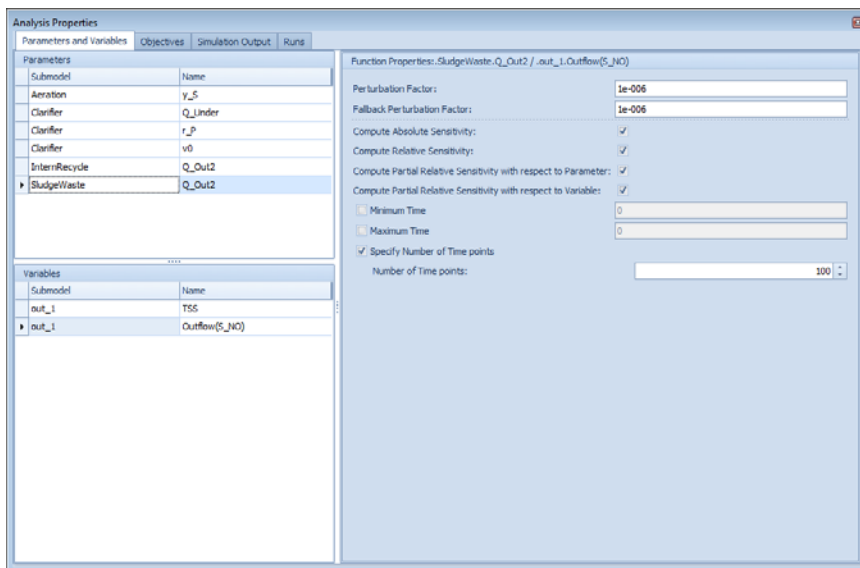

Figure 8.4 Parameters and Variables tab page for the Local Sensitivity Analysis experiment
- Drag and drop the relevant parameters and variables on the “Parameters and Variables” tab page (Figure 8.4). The default settings are fine.